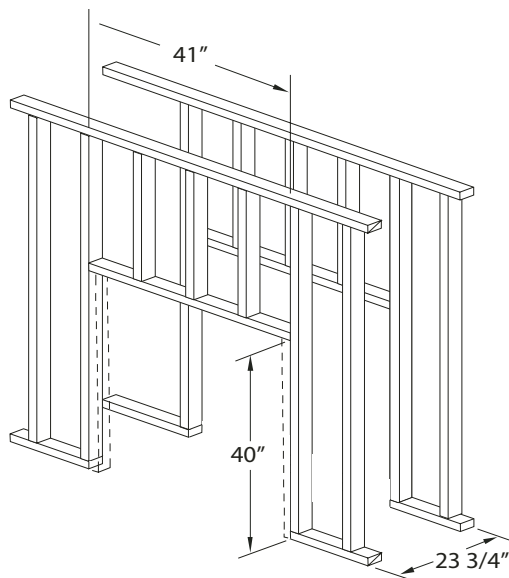

Figure 2. Framing dimensions. Both walls typical.
Frame in the enclosure for the unit with framing materials. The framed opening for the assembled fireplace is 41" wide x 40" high x 23 3/4" deep, see Figure 2.
- 2). Tack four studs in place, shown in Figure 2 and 3 as dashed lines.